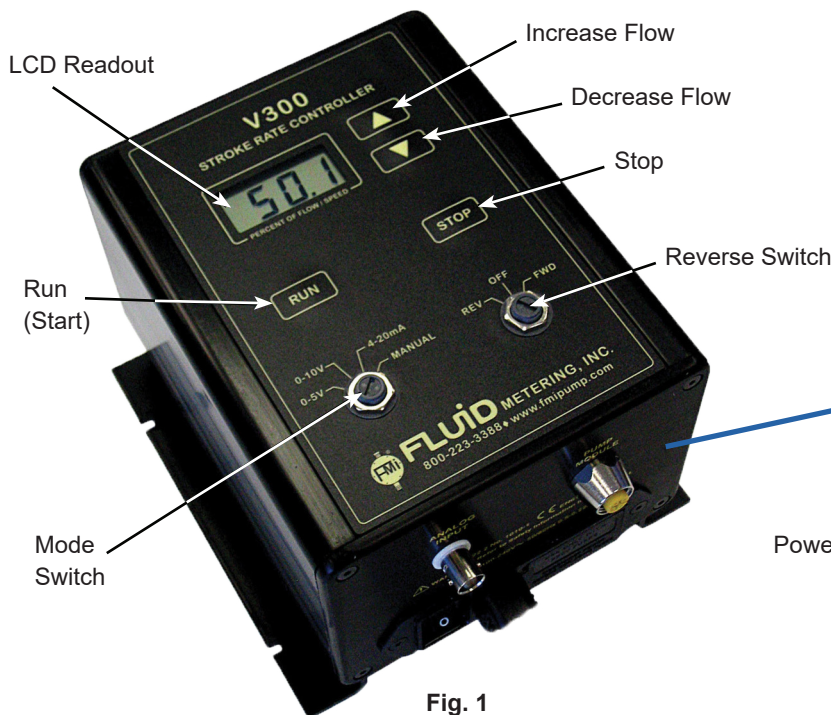

Fig. 1
**2. FEATURES.** (See Figs. 1, 2)
The reversing switch is marked as "REV", "OFF", and "FWD". It must be set to "FWD" for normal operation (see Fig. 1).
To run the V300 system in 0-5 Volt mode, simply turn the Mode Switch to "0-5V" using a screwdriver (see Fig. 1).
To run the V300 system in 0-10 Volt Mode, simply turn the Mode Switch to "0-10V" using a screwdriver. (See Fig. 1.)
To run the V300 system in 4-20mA mode, simply turn the Mode Switch to "4-20mA" using a screwdriver (see Fig. 1).